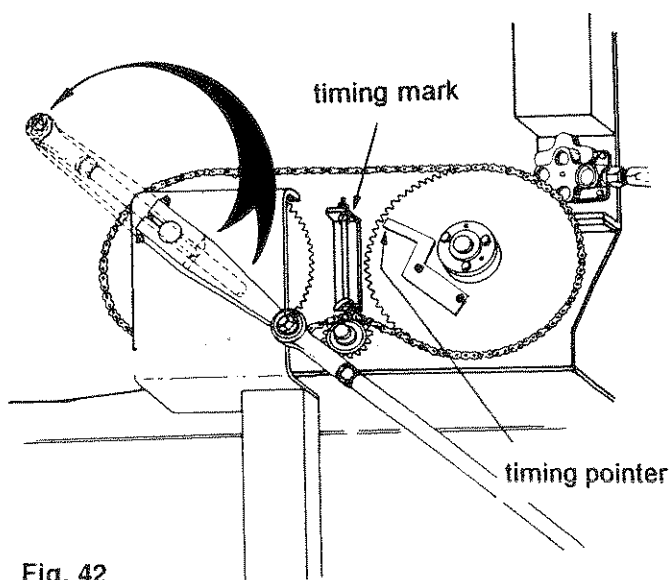

Fig. 42
5. Use the manual operator pendant to position needle yoke precisely at bottom dead center, (home position), see Fig. 42.